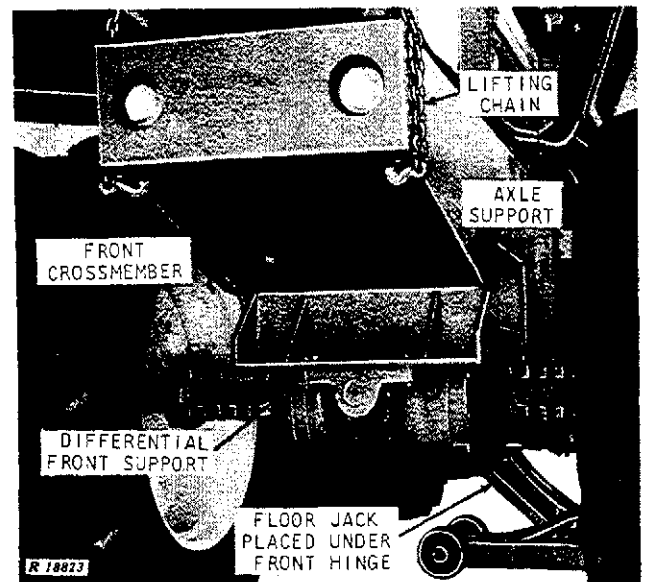

Fig. 19-Removing Front Axle Assembly With Axle Support
6. Raise the tractor front end and roll axle assembly out from under tractor (Fig. 19).